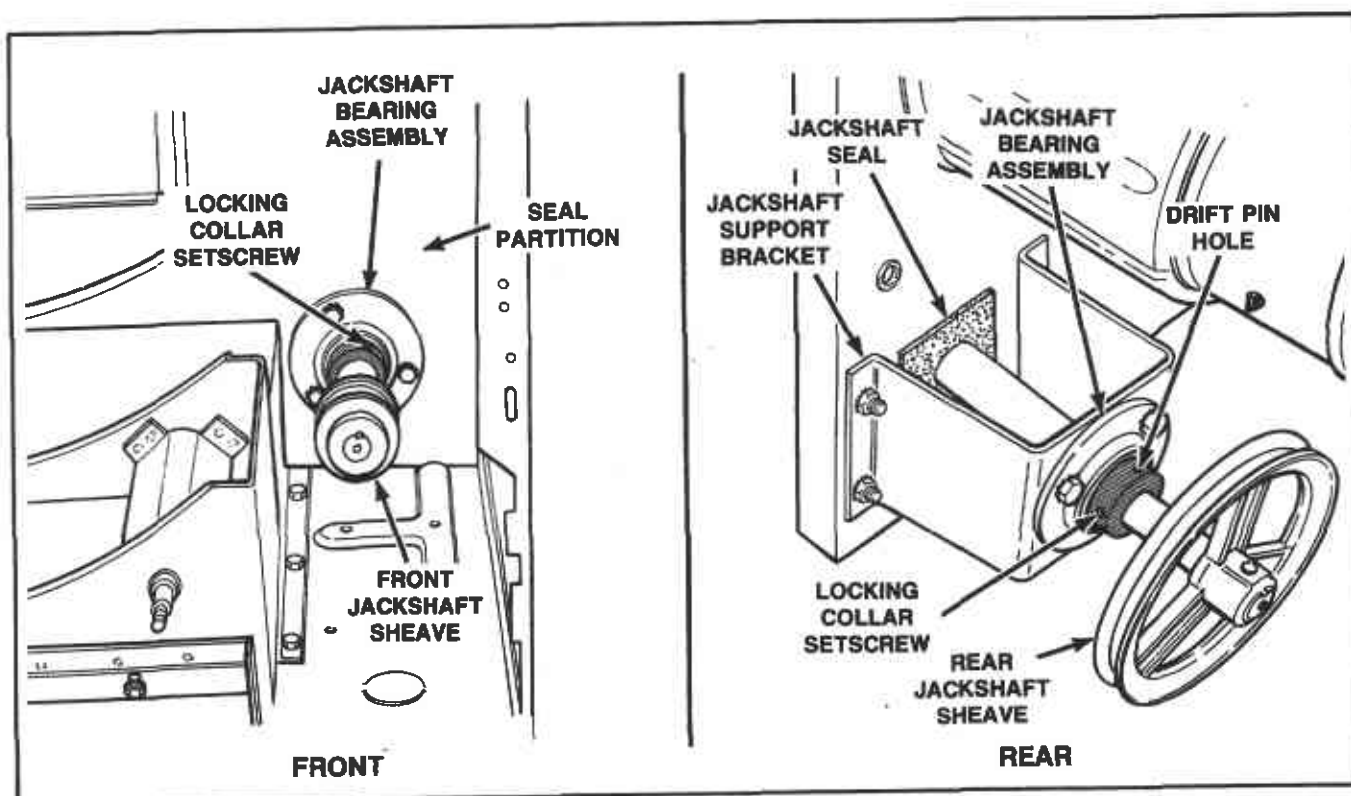

Figure 34
- Remove rear jackshaft sheave, *Figure 34*.
- Loosen rear bearing locking collar setscrew several turns, *Figure 34*.
5. Remove bolts holding front bearing assembly to seal partition, *Figure 34*.
12. Remove rear bearing assembly from jackshaft support bracket, *Figure 34*.
13. Replace jackshaft seal if worn or damaged, *Figure 34*.
1. Remove front jackshaft sheave, *Figure 34*.
2. Loosen front bearing collar setscrew several turns, *Figure 34*.
5. Remove bolts holding rear bearing assembly to jackshaft support bracket, *Figure 34*.
12. Remove front bearing assembly from seal partition, *Figure 34*.
- a. Install front and rear bearing flange assemblies to their mounting surfaces with locking collars facing outward for each bearing, *Figure 34*.
- h. Tighten front bearing flange to the seal partition, *Figure 34*.